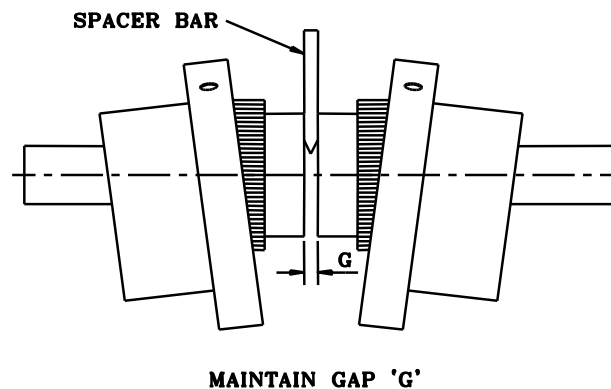

Fig. 2
3. With one machine firmly bolted down, set the equipments at a distance 'G' (refer table A & B on page 12 & 13 resp.) between shaft ends by using a spacer bar equal in thickness to the required gap 'G' as shown in Fig. 2.